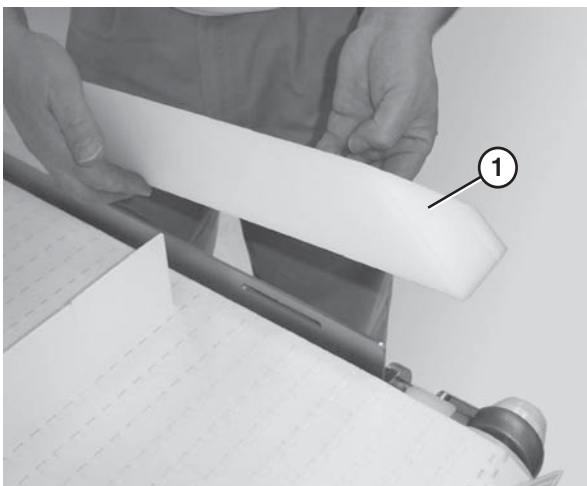

Figure 43
2. Remove the guide (**Figure 43, item 1**).